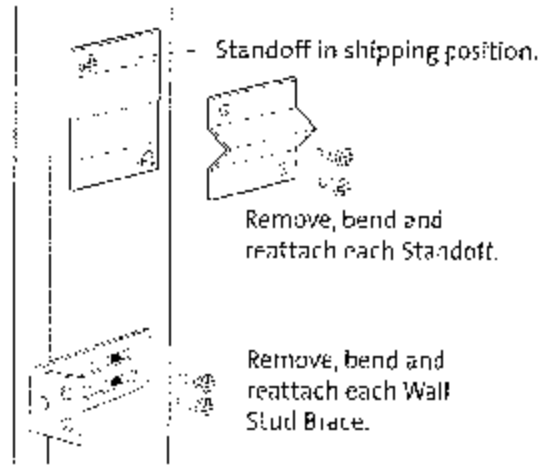

Figure 24. Standoff and Stud Brace orientation.
- Side Standoffs:** Remove the retainer screws. Using vise grips or pliers, fold each standoff at the perforations. Secure each standoff using the screws previously removed. See fig. 24.
- Wall Stud Brace:** Loosen, bend, and position each cabinet Retainer Strap for attachment to the fireplace enclosure. See fig. 24.